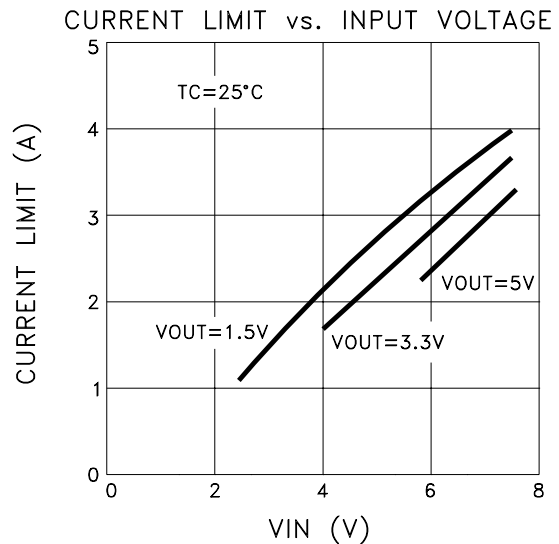

FIGURE 1
- ⑦ Output current limit is dependent upon the values of VIN and V_{OUT}. See Figure 1 and typical performance curves.
- ⑧ Minimum VIN at -55°C and I_{OUT}=1.0A is 4.0V due to current limit circuitry.
- ⑨ Continuous operation at or above absolute maximum ratings may adversely effect the device performance and/or life cycle.
- ⑩ Pre and post irradiation limits, up to 300Krad TID, are identical unless otherwise specified.
- ⑪ Reference DLA SMD 5962F09216 for electrical specification for devices purchased as such.
The MSK5800RH current limit function is directly affected by the input and output voltages. Figure 1 illustrates the relationship between VIN and ICL for three output voltages.